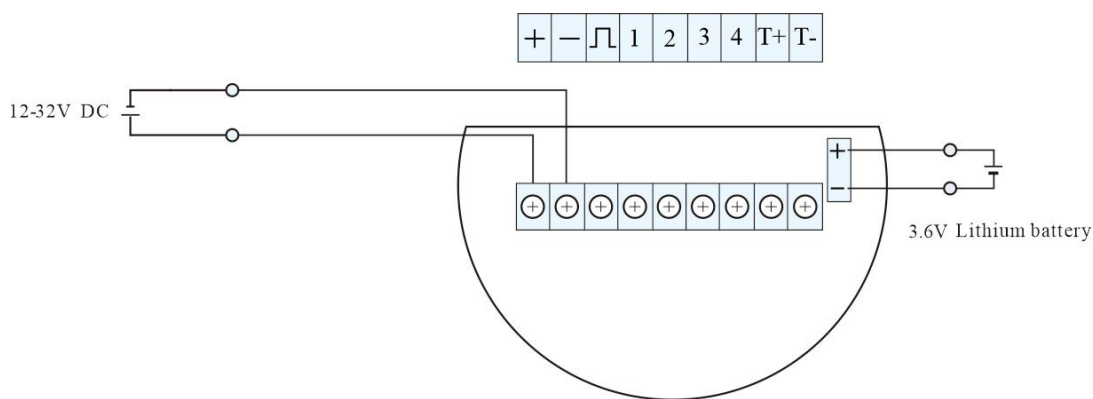

Fig.15
1. Dual power supply+pulse output (battery powered) (Fig.15)